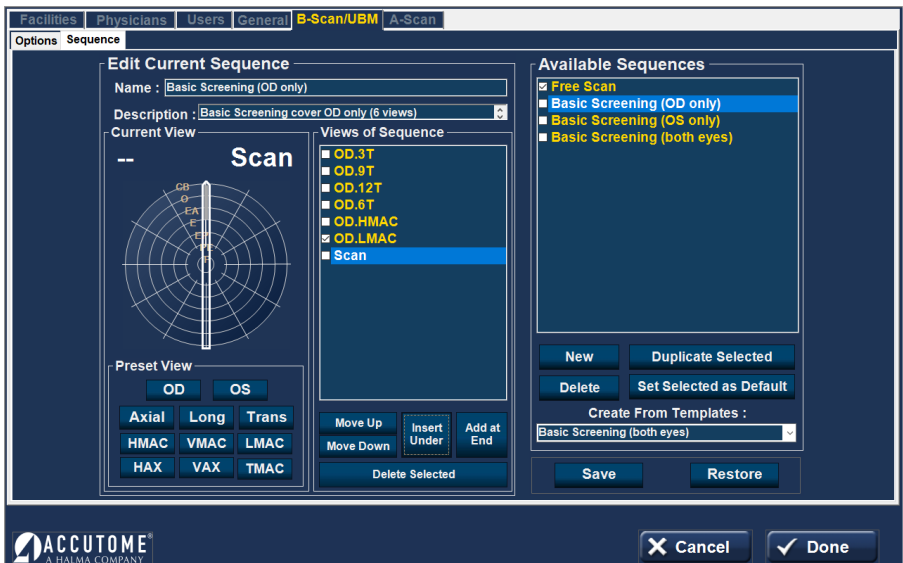

Figure 7.4 – Setup: B-Scan/UBM – Sequence – New Sequence Scan Added
- Select the first view, or scan, of the new sequence by either clicking in the checkbox (to the left of the view name) or by double-clicking on the scan title (e.g., OD.Scan) in the “Views of Sequence” box as shown in figure 7.4.
2. The newly added sequence scan will display as Scan as shown in Figure 7.4.